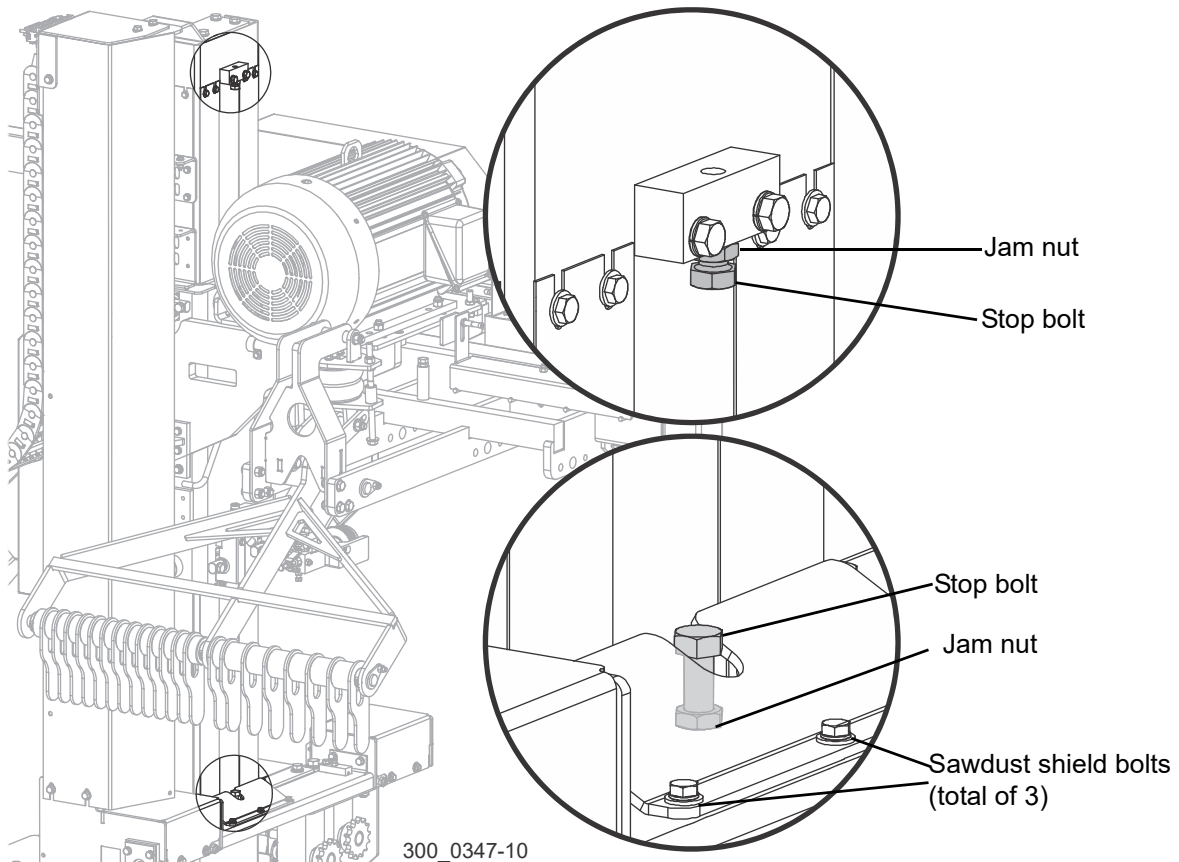

FIG. 4-30
1. Remove the sawdust shield at the base of the mast. (See Figure 4-30.)
See Figure 4-30.